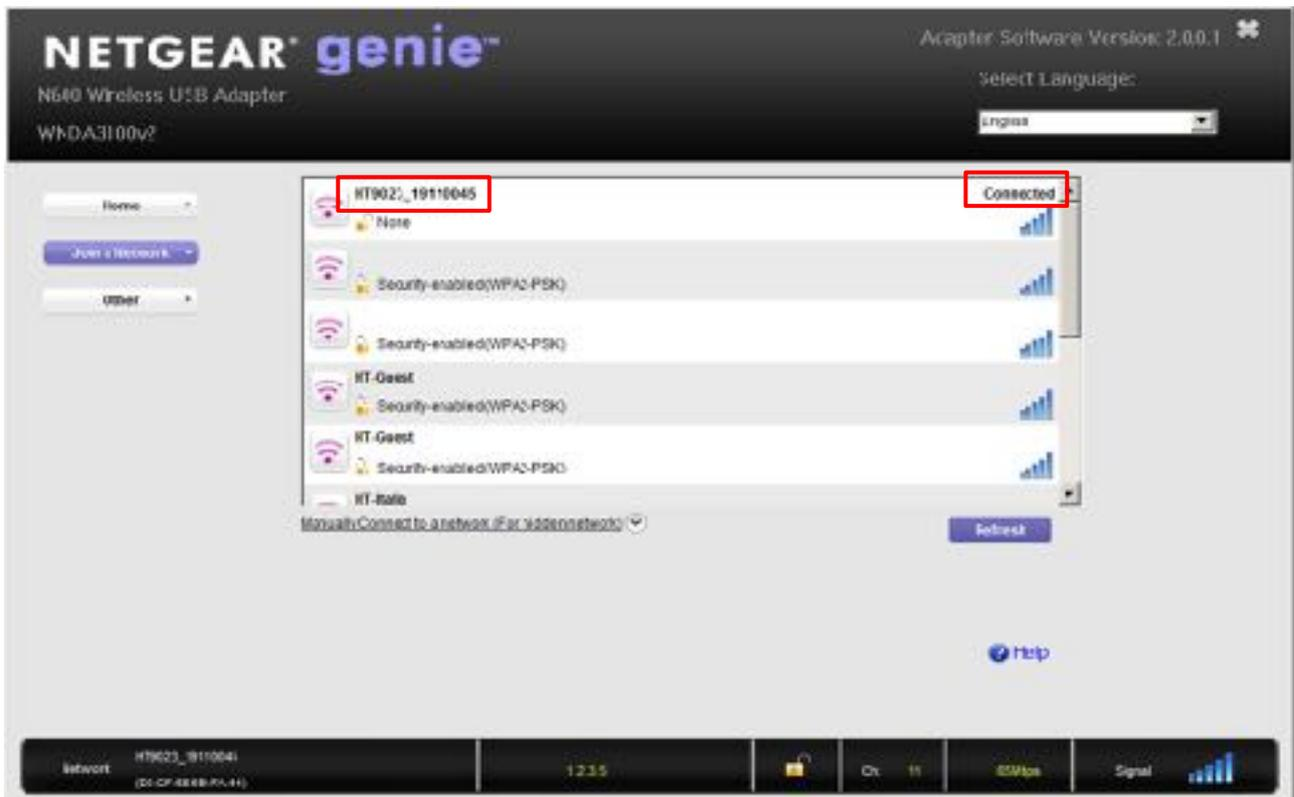

Fig. 15: WiFi connection of instrument to PC (example)
5. Search for the “HT9023_xxxxxxx” instrument in the WiFi device included on the PC and connect it as shown **as an example** in the following Fig. 15